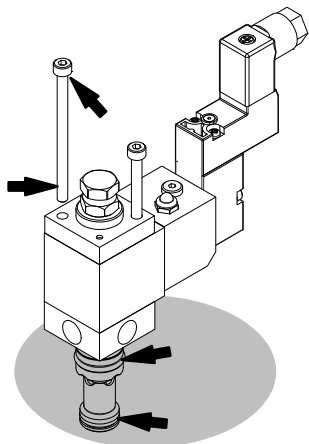

Fig. 7-3
1. Apply high temperature grease (Refer to page 7-4, *Processing Materials*) (Figure 7-3):
2. Insert the new control module. Do not tilt! The control module is positioned correctly when the cylindrical part rests evenly on the body, below the detection holes. The gap between the square part and the body is then 2 mm. Also compare to the adjacent control modules or to Figure 7-3.